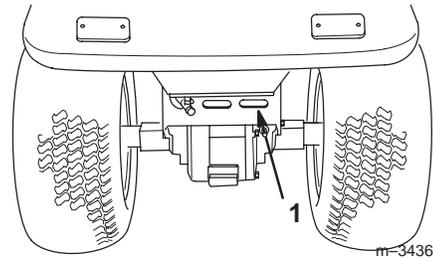

Figure 10
- Clean debris from the rear transaxle cover (Fig. 10).